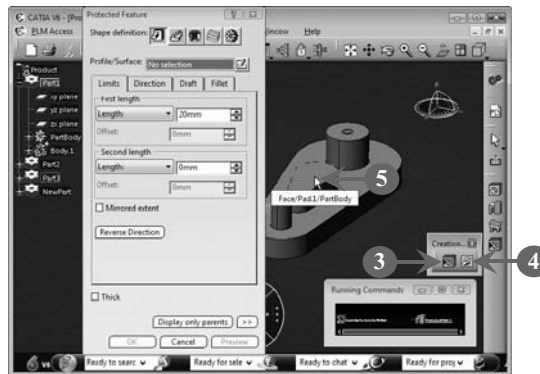

FIGURE 4.45
The **Protected Feature** dialog box appears (**Figure 4.45**).
3. Click the **Launch Assembly Feature Definition** button on the **Creation** toolbar to prevent the **Assembly Feature Definition** dialog box from appearing at the end of the creation of assembly protected (Figure 4.45).
4. Click the **Specification in No Show** button on the **Creation** toolbar to show the assembly protected at the end of its creation (Figure 4.45).
5. Select the component of the assembly in which you want to create an assembly protected, as shown in Figure 4.45: